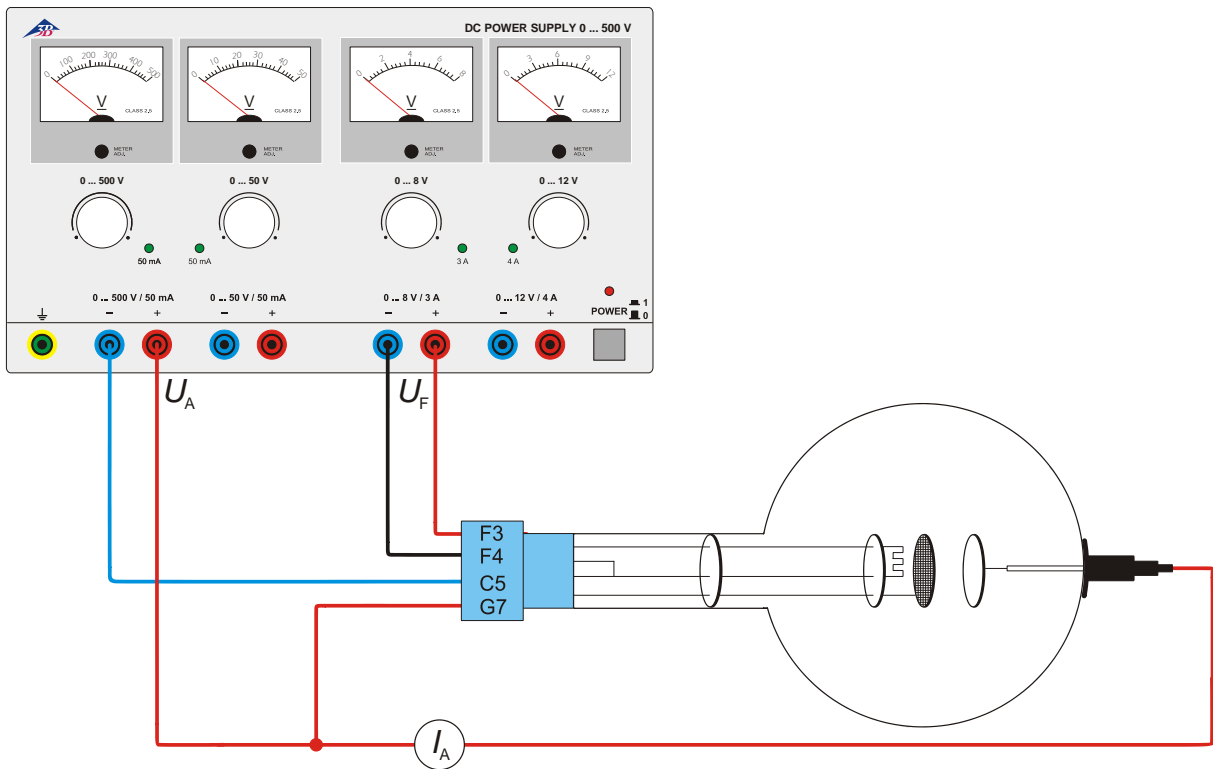

Fig. 2 Non-self-sustaining discharge
- Set up the circuit as in fig. 2.